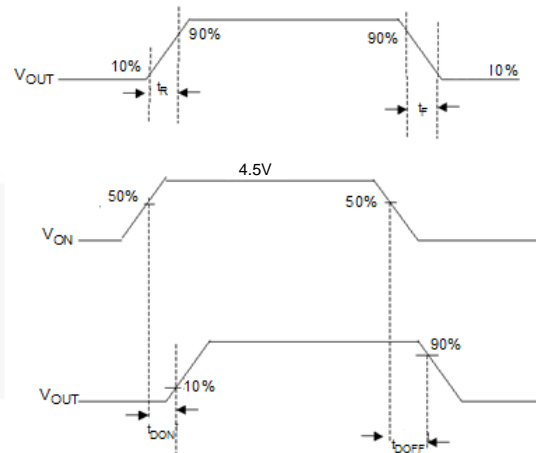

Figure 22. Timing Diagram
- $t_{DON}/t_{DOFF}/t_R/t_F$  are defined in Figure 22.